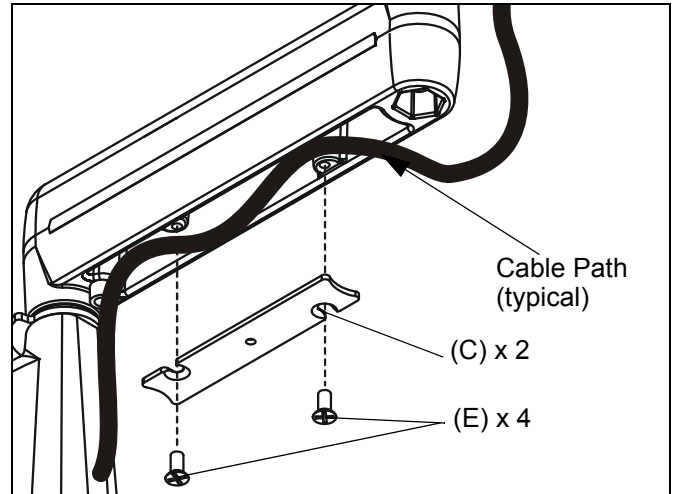

Figure 9:
**⚠ CAUTION:** Ensure that adequate cable slack exists for movement of display, and that cables will not be pinched by installation of cover (C) or screws (E).
2. Carefully insert cables in cavity located in lower portion of mount arm (See Figure 9).
3. Using Phillips screwdriver, install cover (10) with two screws (20). (See Figure 9)